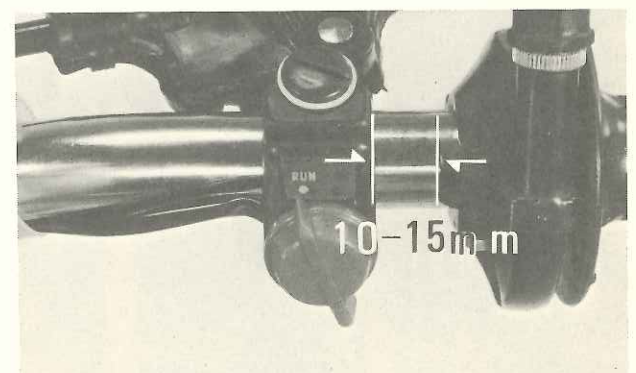

Fig. 4-40
4. Insert throttle cable housing, making sure that distance between housing and bracket is as shown in Fig. 4-40.